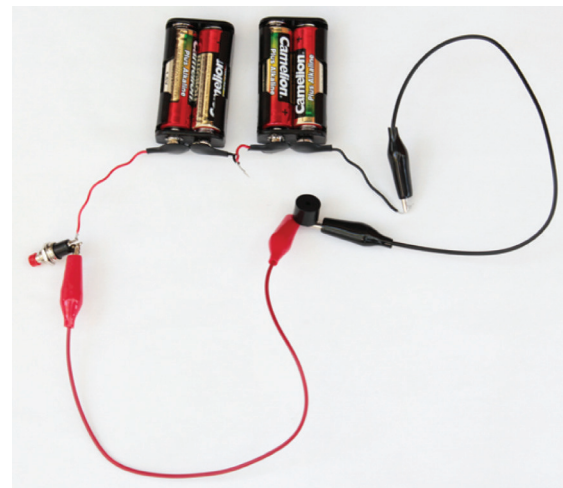

Figure 2: A simple doorbell circuit
Push button switches are often used for doorbell circuits, as in Figure 2. This simple doorbell circuit consists of cells in series, a push button and a buzzer, all connected by conducting wire. A person visiting the house presses the button for a short time and then releases it.
1. Draw the circuit diagram of the doorbell circuit in Figure 2. Use the correct circuit diagram symbols. Note that the cells are in series.